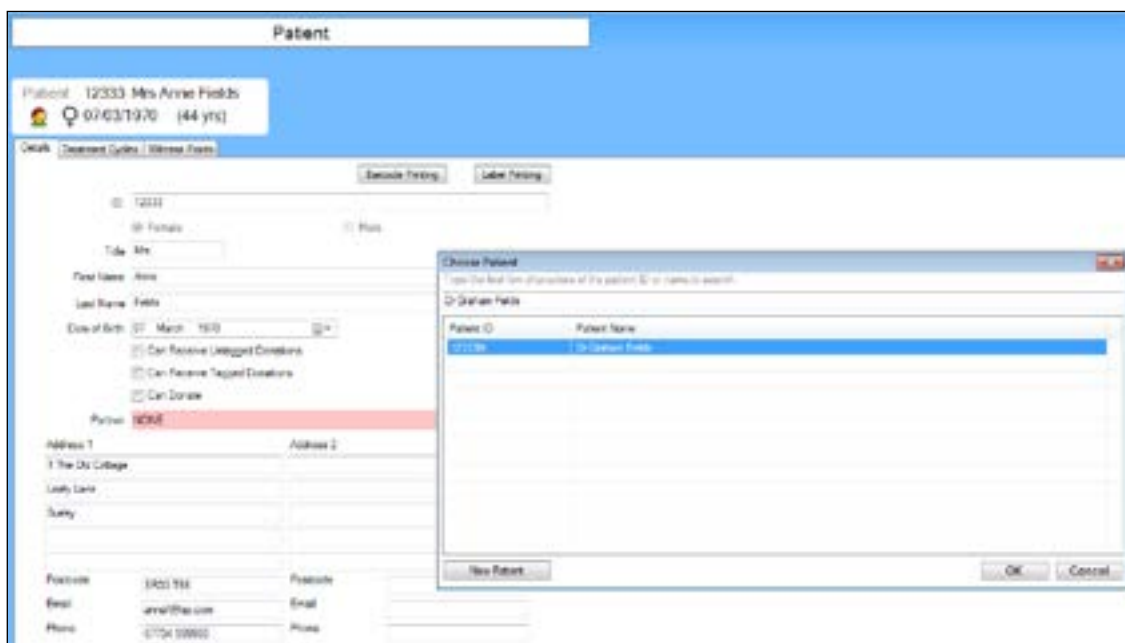

Figure 6-16 Assign Partners
5. Click on the patient name and then confirm selection by clicking **OK**. See Figure 6-16.